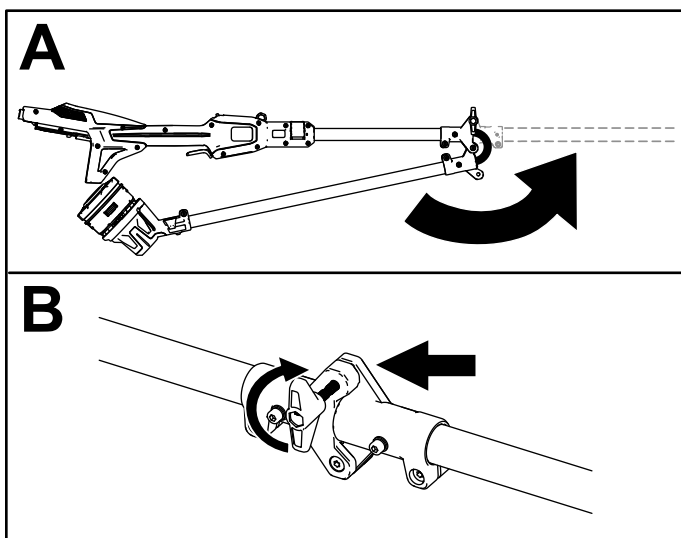

Figure 3
1. Unfold the shaft (A of Figure 3).
2. Secure the shaft together at the coupler using the connector knob (B of Figure 3).